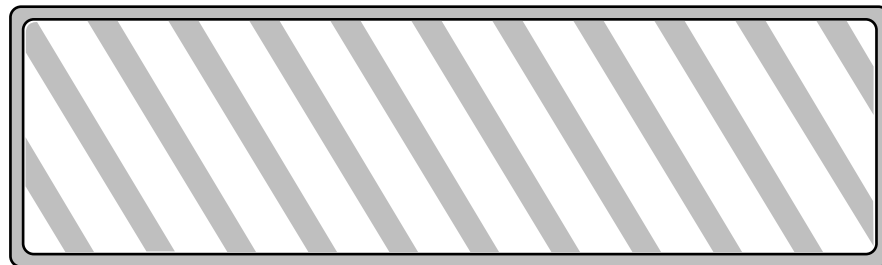

Figure 3-2 Display Test Pattern
Step 3 Release key 5 when the moving Display Test Pattern appears (see Figure 3-2).
The the Printer Diagnostic Program starts automatically and the Display Test Pattern appears (see Figure 3-2).
Step 3 Release key 5 when the Display Test Pattern appears (see Figure 3-2).
The control panel shows a moving barber-pole test pattern (see Figure 3-2) upon entering the Printer Diagnostic Program. This is the Display Test.